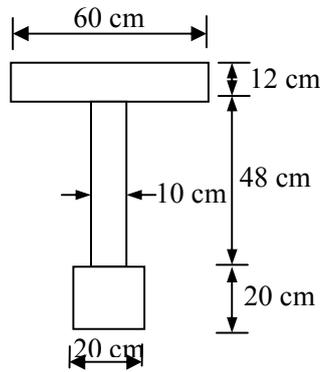

Fig. 5 Que 3(c)
**(c)** Determine moment of inertia of a section shown in **Fig. 5** about horizontal centroidal axis. **06**